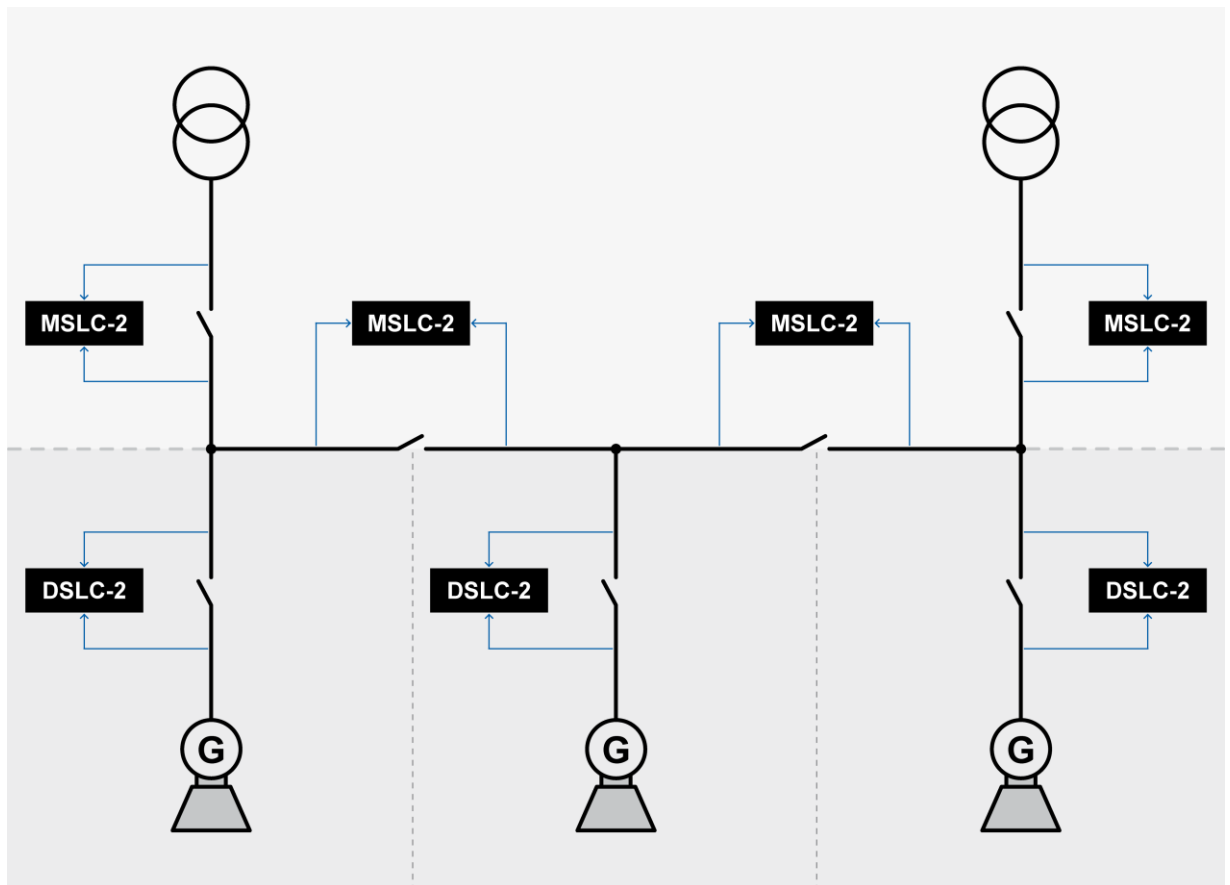

Figure 3-98: Example of an online diagram – step 1
1. Draw an online diagram of your application with all generators, breakers and utility inputs. Then arrange the DSLC-2 (and MSLC-2) at the according breaker. Refer to Figure 3-98.